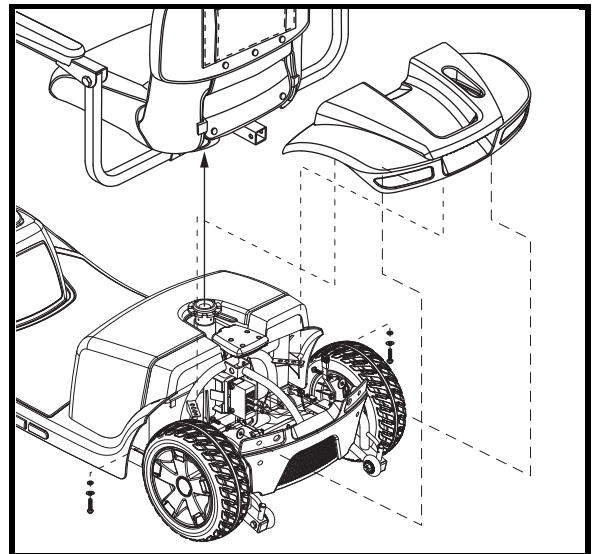

Figure 4. Victory 10 Seat and Rear Shroud Removal (Victory 9 May Differ Slightly in Appearance)
3. Remove the seat and rear shroud. See **figure 4**.
2. Remove the seat and rear shroud. **See figure 4.**